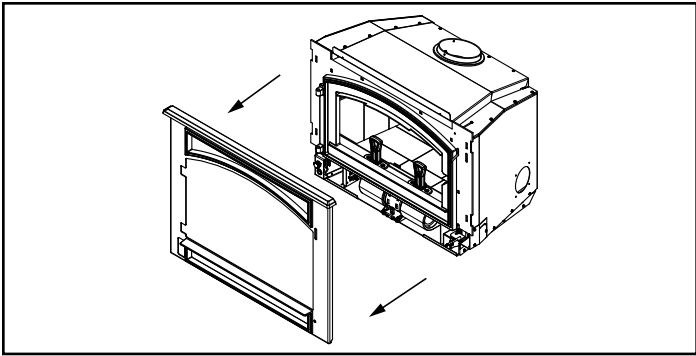

Figure 5.8
3. Remove face by lifting up then out away from appliance and set aside laying it onto a protective surface (**Figure 5.8**).
- 2. Lift surround assembly to front of appliance (**Figure 5.8**).